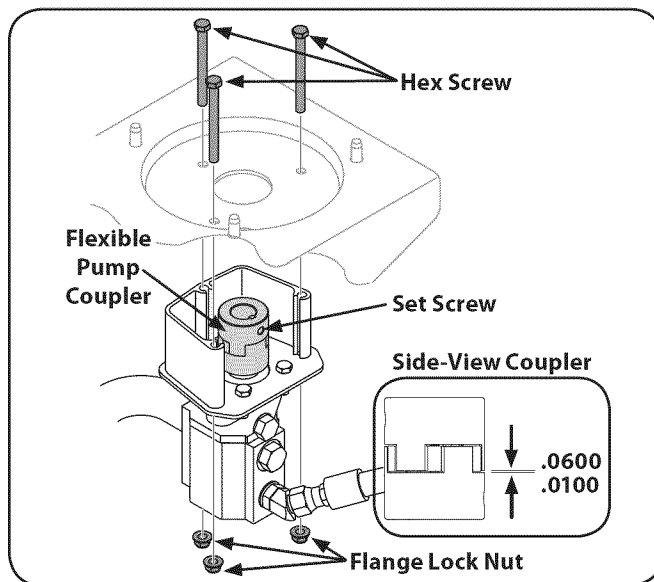

Figure 7-1
1. Remove three nuts that secure the pump to the coupling shield. Two nuts are at the bottom corners and one is in the top center. See Fig. 7-1.
11. Set .010" to .060" of clearance/gap between the nylon "spider" and the engine coupling half by sliding a feeler gauge or matchbook cover between the nylon "spider" and the engine coupling half and moving the pump coupling half as needed. Secure the pump coupling half with the set screw. See Fig. 7-1.